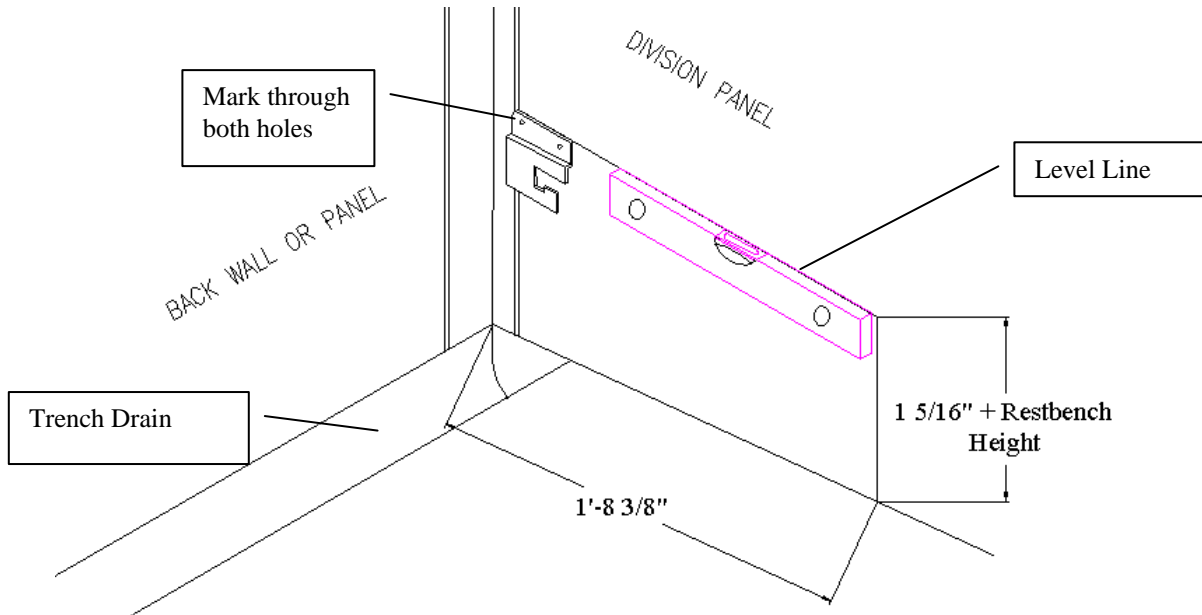

Figure 1.
1. Measure out from the back wall of the run a distance of 1'-8 3/8" and make a mark on the division panel (or side wall). Then measure up vertically a height of 1 5/16" plus the height of the rest bench (example: If you have a 6" high rest bench you would measure up 7-5/16"). Make a mark on the panel (wall). Using a level, transfer the last mark you made to the rear of the Division Panel. Do this on both sides of the run. See Figure 1.